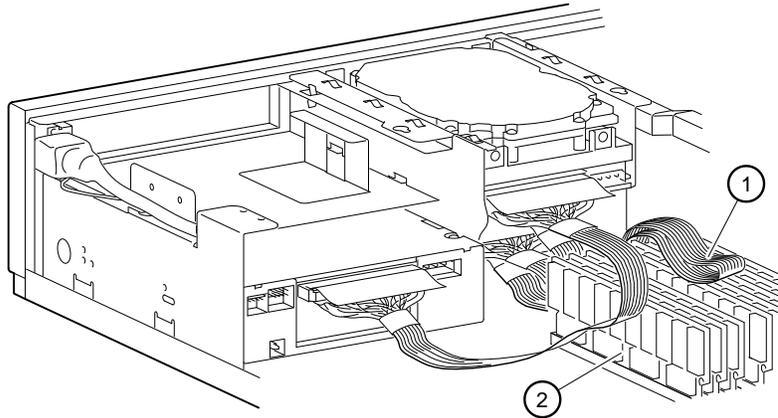

Figure 4-16 Drive Bracket Cable Routing
Figure 4-16 shows how the drive cables ① are routed over the SIMMs ②.